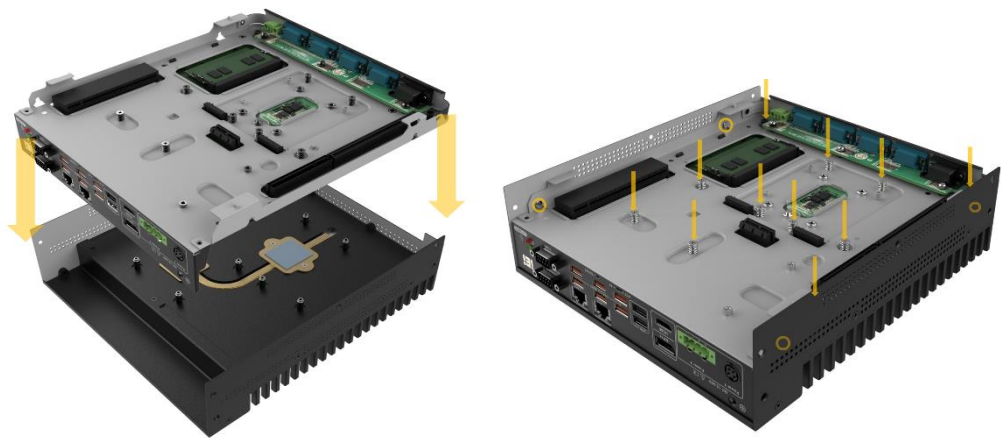

Figure 3-5: Motherboard Installation
- Step 1:** Align the motherboard (together with the motherboard holder) with the 4 positioning rods on the 2 sides, place it on the heat sink, and lock the motherboard with 11 spring screws. (See Figure 3-5)